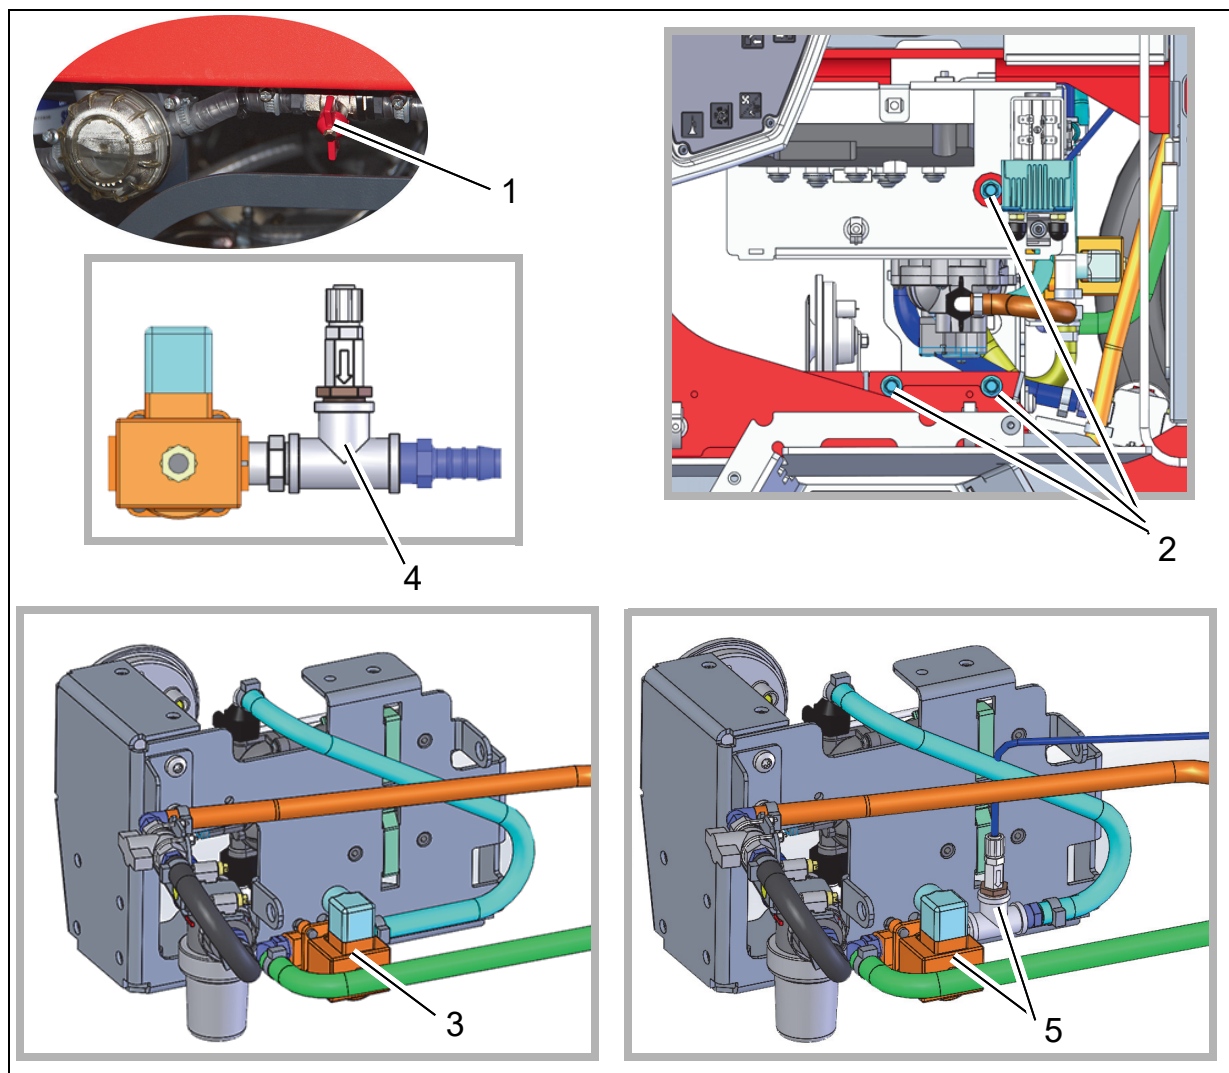

Fig. 2
1. Switch off the water supply (Fig. 2/1).
3. Undo the bolts (Fig. 2/2) and remove the water plate.
4. Remove the solenoid valve from the water plate (Fig. 2/3).
5. Install the pre-assembled non-return valve (Fig. 2/4) between the solenoid valve and screw-in nozzle. Insert screw connections with sealing material.
6. Re-install the pre-assembled solenoid valve on the water plate (Fig. 2/5) and restore all the hose and cable connections.